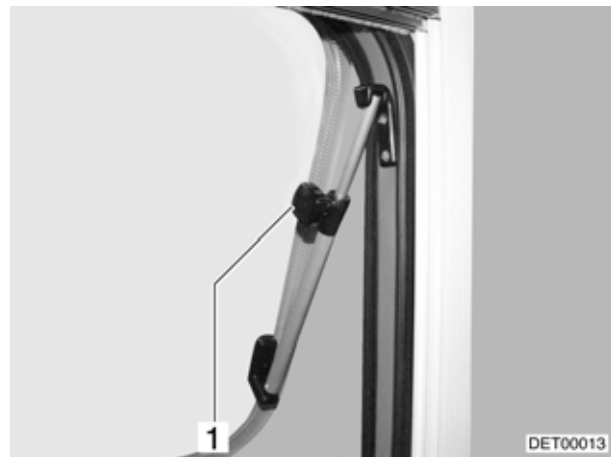

Fig. 39 Hinged window, open (variant 1)
- Open the hinged window until the required position has been reached and use knurled knob to secure in position (Fig. 39,1).
- Turn knurled knob (Fig. 39,1) until the latch is released.